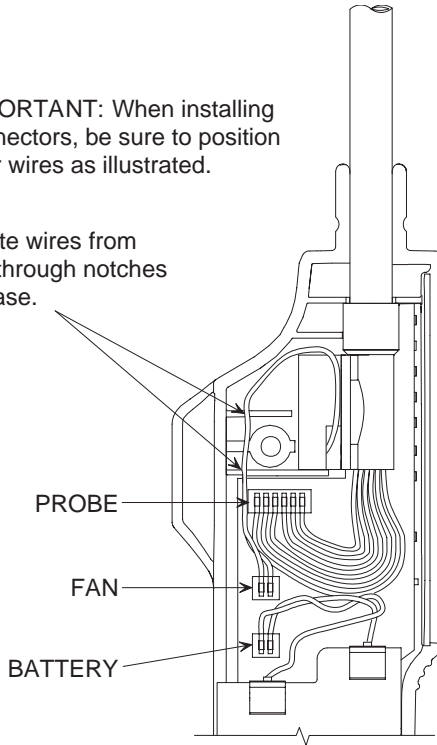

Figure 8. Connector Locations on Printed Circuit Board
7. Plug both the probe and fan connectors onto their respective header pins on the printed circuit board as shown in Figure 8.
- Position the probe assembly between the two case halves, routing the fan wires through the notches in the case as shown in Figure 8. Then reassemble the case, push on the front retaining collar, screw on the probe tip, and reinstall the batteries.
Instrument does not turn on.	<ul style="list-style-type: none"> a. Batteries are dead or installed backward. Install four fresh ‘AA’ alkaline batteries per Section Battery Installation. b. Faulty refrigerant sensor. Remove sensor and turn on detector. If detector now turns on, replace sensor per Section Sensor Replacement. c. Loose printed circuit board connector. Disassemble detector and ensure that all connectors are securely attached to the printed circuit board. See Figure 8.
Erratic gas indication.	<ul style="list-style-type: none"> a. Windy conditions. Shut off surrounding fans; protect probe tip from wind; switch to low-sensitivity per Section Normal/Low Sensitivity Mode. b. Loose sensor. Unscrew probe tip and ensure that sensor is being held firmly in socket. c. Sensor faulty. Replace sensor per Section Sensor Replacement. d. Loose printed circuit board connector. Disassemble detector and ensure that all connectors are securely attached to the printed circuit board. See Figure 8.